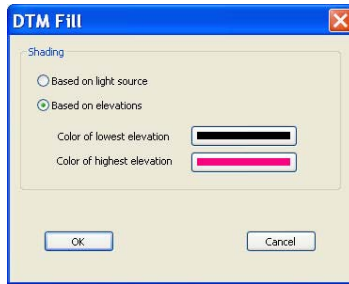

Figure 14-53. DTM Fill Dialog Box
- DTM Filling – this option controls how the surface displays. The *DTM Fill* dialog box displays (Figure 14-53).
- Fill – check mark this option to control the filling of the DTM mesh (Figure 14-53). If check marked, the mesh will be filled, based upon the DTM filling settings. If unchecked, only the mesh will display.
- Smooth – smooths the triangular mesh lines to provide a smoother appearance (Figure 14-53). The smoothing for the color transition of the mesh is also controlled.
- Speed – controls the speed of zooming and panning while in 3D view. Select either *Slowest*, *Slower*, *Normal*, *Faster*, or *Fastest* (Figure 14-53).
- Vertical Exaggeration – sets the value of the vertical exaggeration of the 3D view (Figure 14-53).